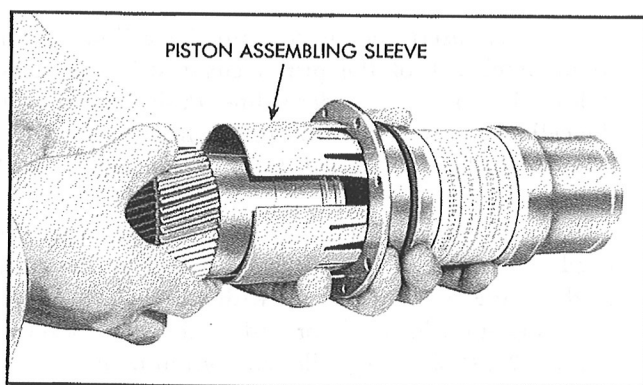

Figure 119—Installation of the Piston in the Cylinder
**Step 9.**—Insert the piston into the blade cylinder. See Figure 119, using the Piston Ring Assembly Sleeve, Figure 66-6. Mate the proper tooth of the piston with the marked valley of the cylinder. The number of the proper tooth is stamped within the piston.